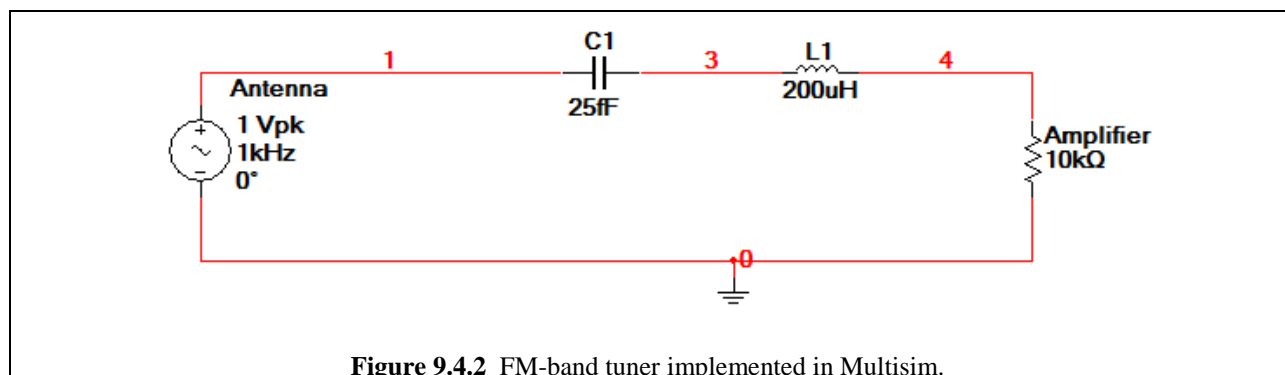

Figure 9.4.2 FM-band tuner implemented in Multisim.
When we go and construct this circuit in Multisim, we represent the antenna with an AC_VOLTAGE component. What should we do for the variable capacitor? Multisim has variable capacitors, but they will be of little use to us for this simulation. Unfortunately you cannot attach the Bode Plotter instrument and change a variable capacitor real time (Go ahead I dare you to try it...it doesn't work); You need to stop the simulation, adjust the capacitor, and then start the simulation again. It's just annoying, and because of that we might as well just invest the time in a Parameter Sweep/AC Analysis. We'll make our "variable capacitor" a normal fixed capacitor which we vary in the Parameter Sweep Analysis. When everything is put together your Multisim schematic should look like that shown in Fig. 9.4.2.
14. Click on the Output Tab of the Parameter Sweep Window, and insert an equation expressing the ratio of the output over the input. In the case of the schematic shown in Fig. 9.4.2, this would be $V(4)/V(1)$... (Your variables may be different since the circuit in Fig. 9.4.2 has skipped a node number 3.)